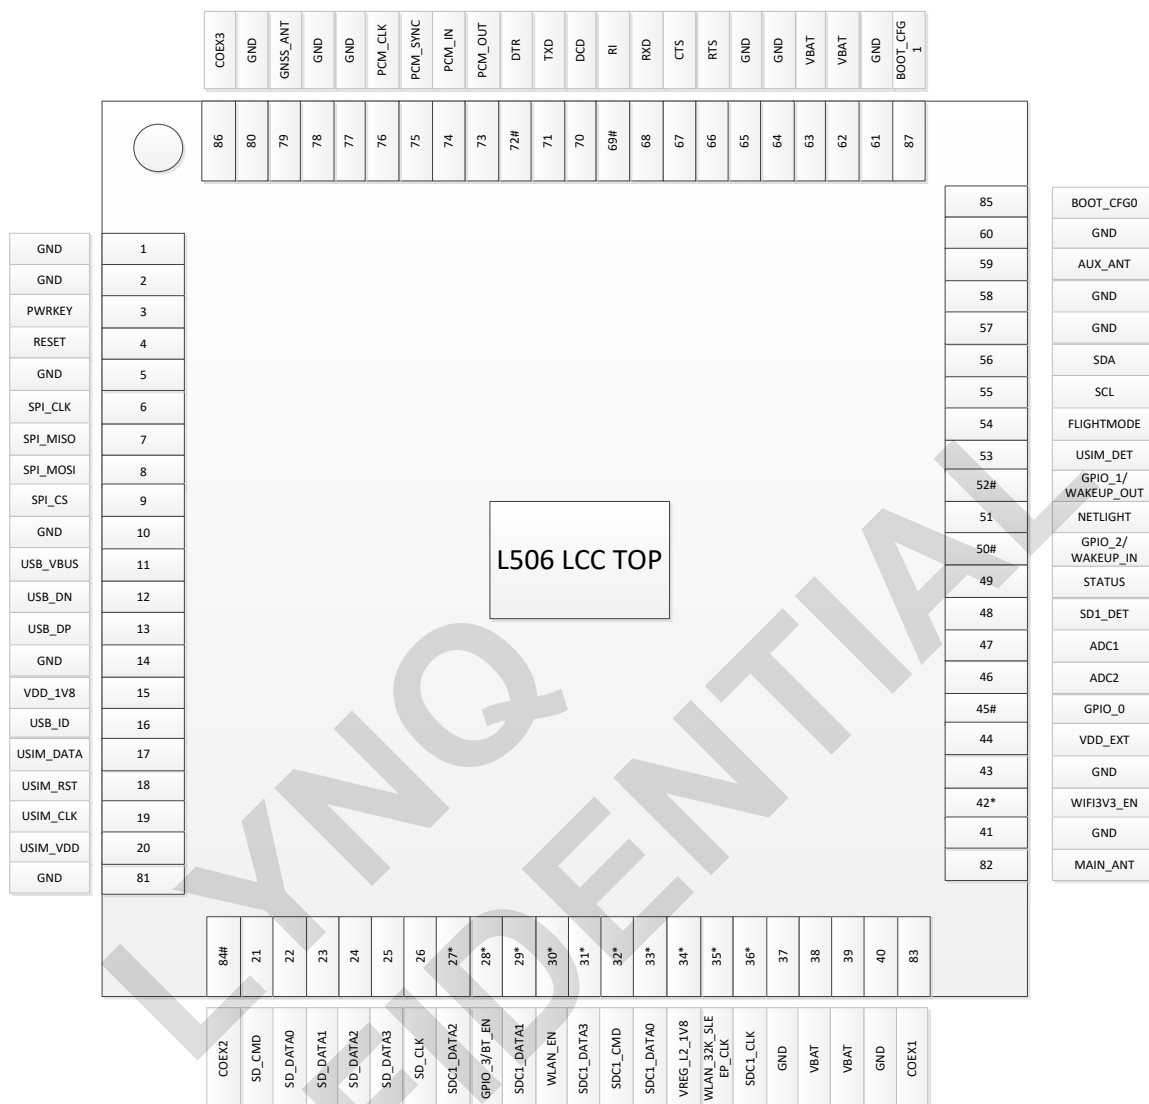

Figure 3-1 Pin Map View(Top View)
L506 have different version, and the correspond pin definition show as special mark(\* mark or #mark) in the pin map. In the different hardware version the corresponding pin have differential using, detail description show as below chart. All hardware interfaces which connect L506 to customers' application platform are through 87 pinspads (Metal half hole). Figure 3-1 is L506 outline diagram.
**Note:** 1.\* flag pin in Figure 3-1 stand for WIFI/BT interface in the WIFI edition module. In without WIFI interface edition, it's reserved pin,suggest in your design let the pin open.
2. #flag pin in Figure 3-1 stand for multi-function pin. Detail description show as in corresponding function description.